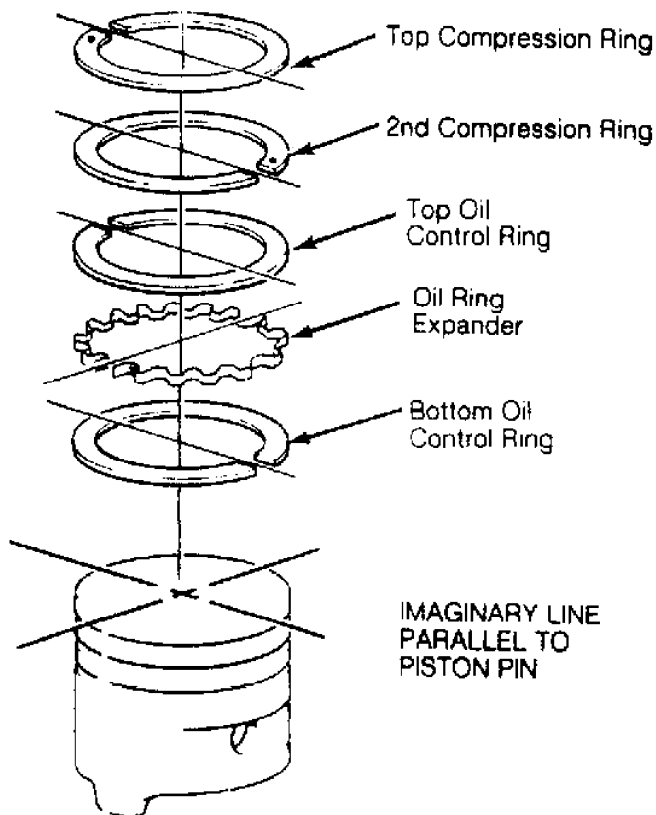

Fig. 5: Positioning Piston Ring Gaps
1) Ensure ring end gap and side clearance are within specification. See ENGINE SPECIFICATIONS tables. Install rings on piston. Position ring end gaps at specified areas. See Fig. 5.